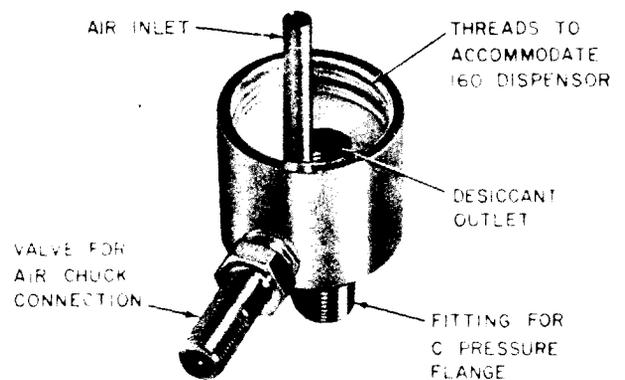

Fig. 1—B Desiccant Injector
**3.01** The B desiccant injector (Fig. 1) consists of the following: